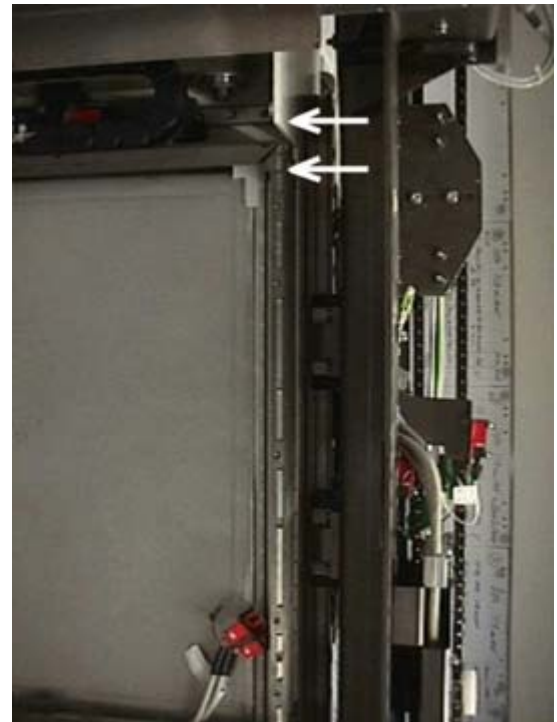

Fig. 104: Cassette adjustment
- Move the cassette to the position for the potentiometer zero adjustment, see (Fig. 104 / p. 91).